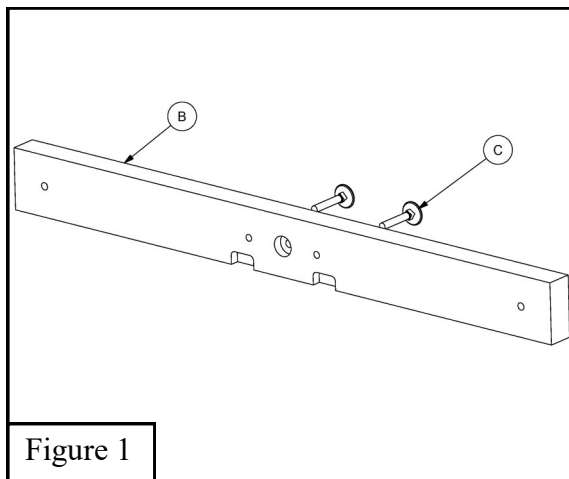

Figure 1
1. Drive two 3/8" x 2 1/2" *Flanged Elevator Bolts* (C) into the back side of each *Wall Board* (B). See Figure 1.